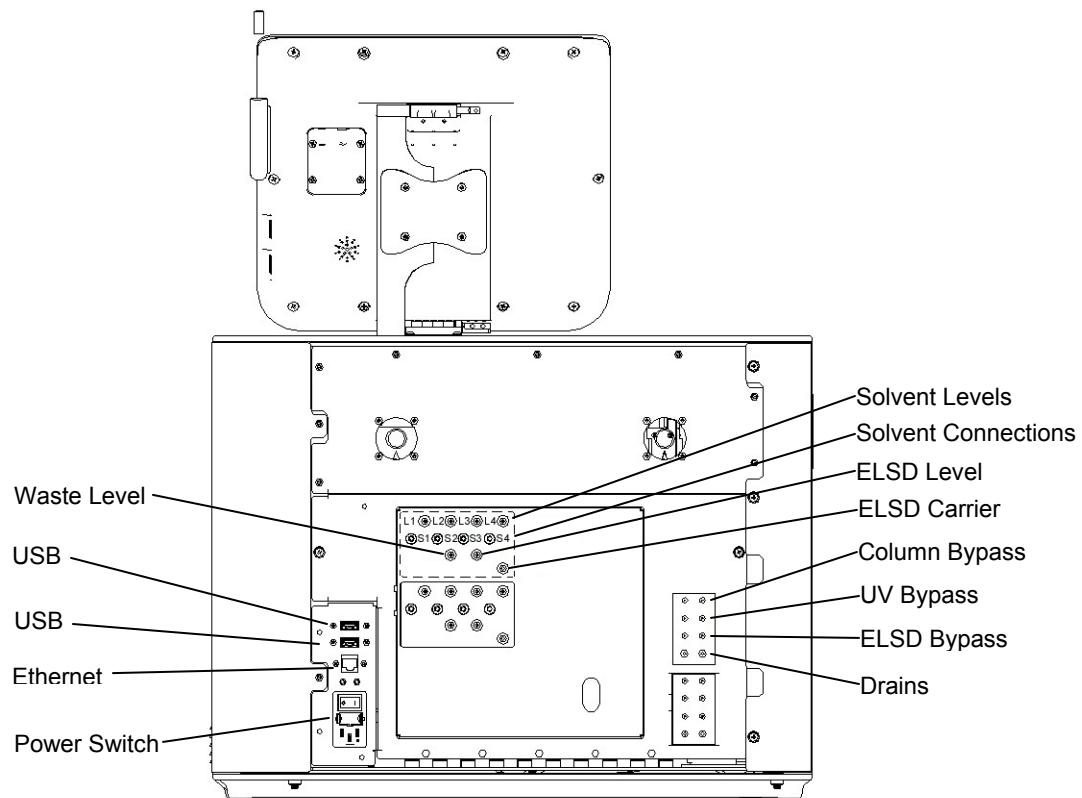

Figure 2-2: Rear Panel
1. Plug the power cord provided with the unit into the power module on the back panel of the Reveleris™ instrument (Figure 2-2) and plug the power cord into the mains. The system automatically detects the input voltage (85-265V).
Connect all solvent lines and the solvent level lines to the manifold on the rear panel (Figure 2-2).
- Connect the exhaust on the rear panel (Figure 2-2) to a fume hood. Install a condensate trap in the exhaust line to prevent solvent condensate from being pulled into the ventilation system.